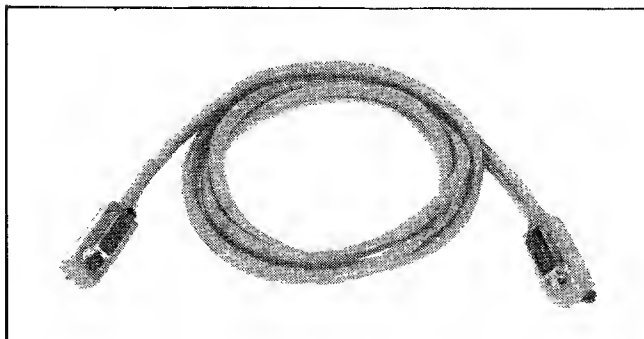

Figure 8-1. HP-IB Interconnecting Cable
2. A standard 2 meter HP-IB interconnecting cable (figure 8-1). This cable has a double-sided male/female connector on both ends to allow for stacked interconnection of multiple cables.